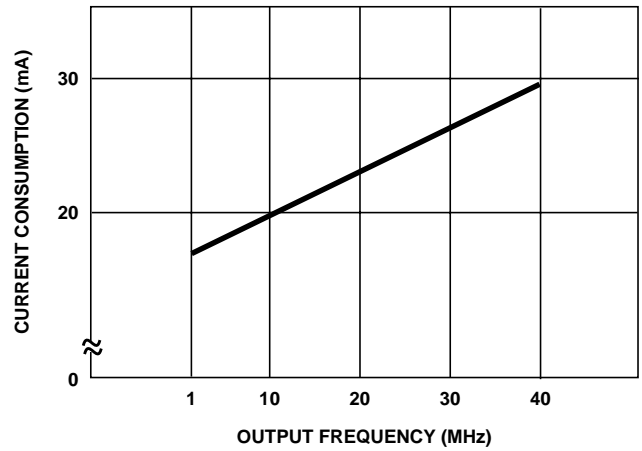

FIGURE 10. OUTPUT FREQUENCY vs CURRENT CONSUMPTION
- Standard Measurement Conditions and Description: $V_{DD} = 5.0V$, $V_{REF} = 2.0V$, $R = 200\Omega$, $16R = 3.3k\Omega$, $T_A = 25^\circ C$. The temperature characteristics of external input data in Figure 10 = all "0" and "1" of rectangular wave; clock frequency = 80MHz.